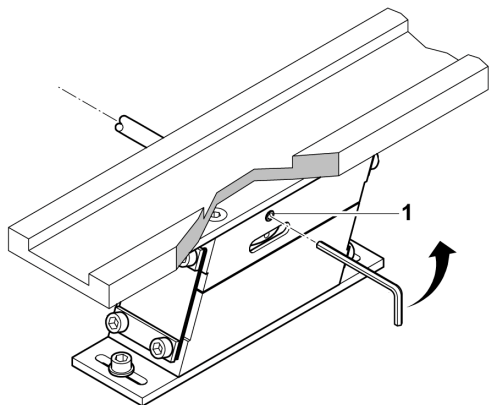
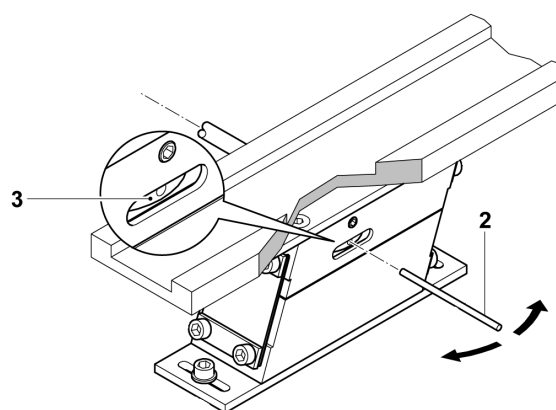
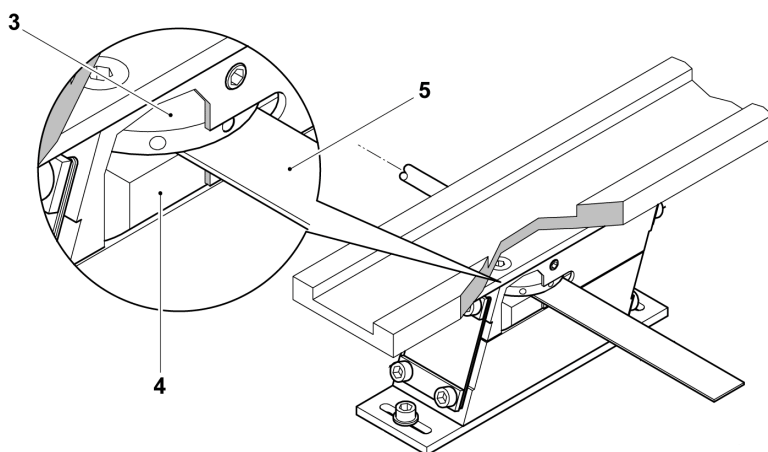

Figure 9
Figure 10
Figure 11
1. Turn the anchor bolt (see Figure 9, Figure 10), therefore:
- LF11: Loosen the set screw M4 (1). Using a cylindrical tool (2) (diameter 2mm) turn the anchor bolt (3) in the appropriate direction.
- LF9: Loosen socket screw (2.5 mm). Turn the anchor screw (3) with your hand into the corresponding direction.
2. The air-gap between magnetic coil (4) and anchor screw (3) is to be adjusted by means of a feeder gauge (5) according to Table 1: Technical data (see Figure 11)